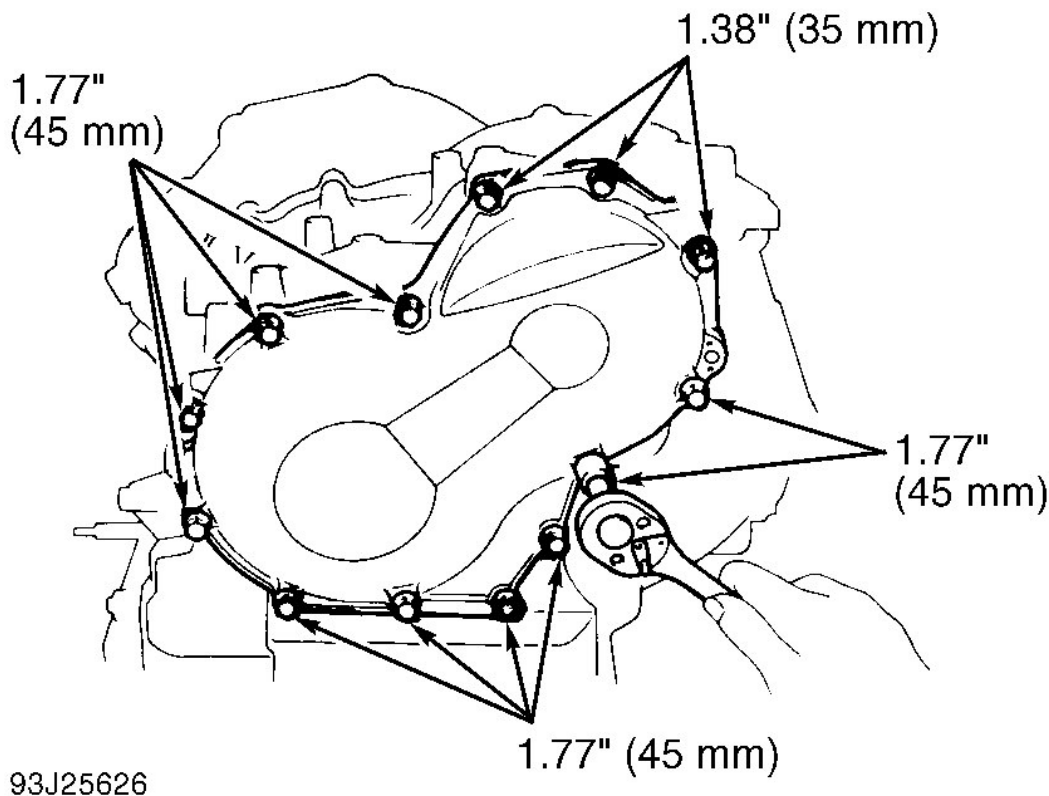

Fig. 53: Identifying Transaxle Rear Cover Bolts
14. Install intermediate shaft. Apply Loctite (518) to rear cover sealing areas. Install transaxle rear cover and bolts. Ensure bolts are installed in correct locations. See **Fig. 53**. Tighten bolts to 21 ft. lbs. (29 N.m). Install apply gaskets in transaxle case. Install thrust washer and governor driven gear. See **Fig. 18**. Ensure intermediate shaft rotates smoothly.